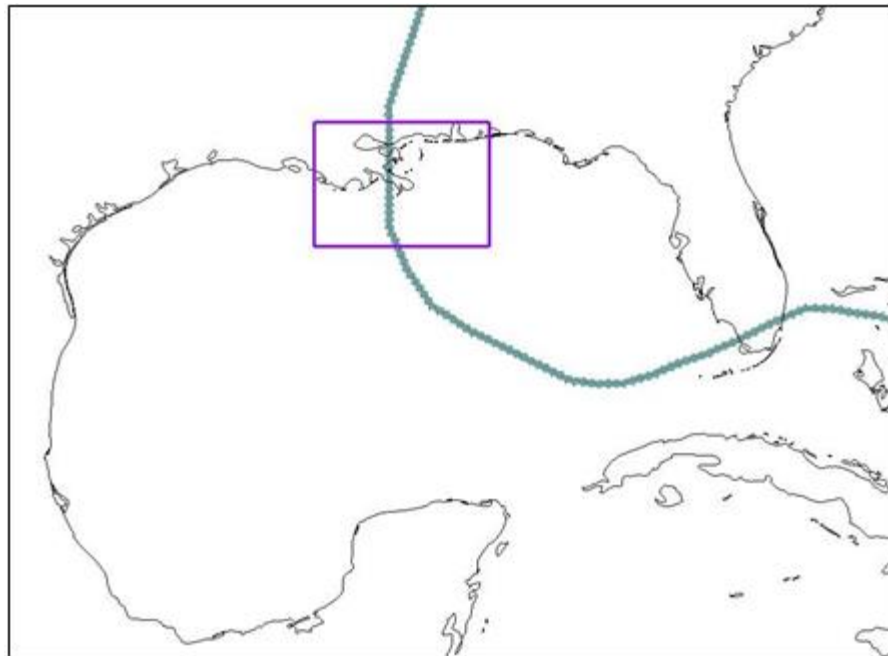

Figure 7 Nested grid frame
5. Using the **Create 2-D Grid Frame**  tool, click out a grid roughly in the same area as shown in Figure 7.